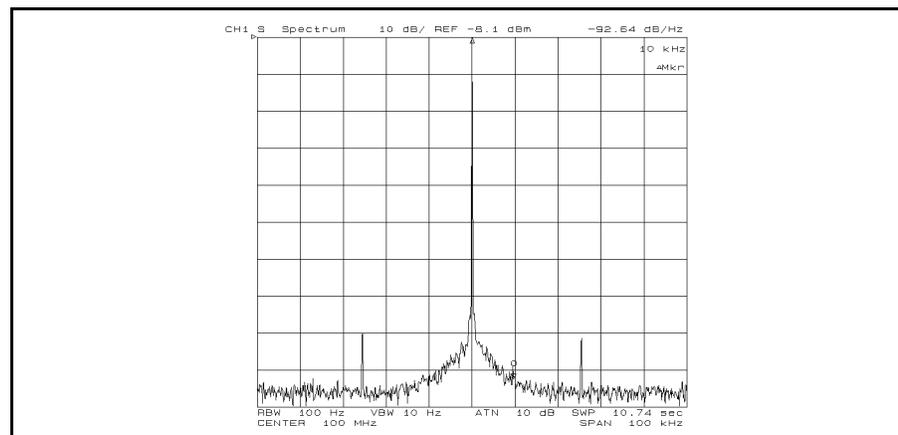

Figure 4-4.
5. Press **Utility** **NOISE FORM** on **OFF** to **ON** off. The analyzer displays the C/N ratio with the unit of “dB/Hz” at the upper right of the display as shown in Figure 4-4.